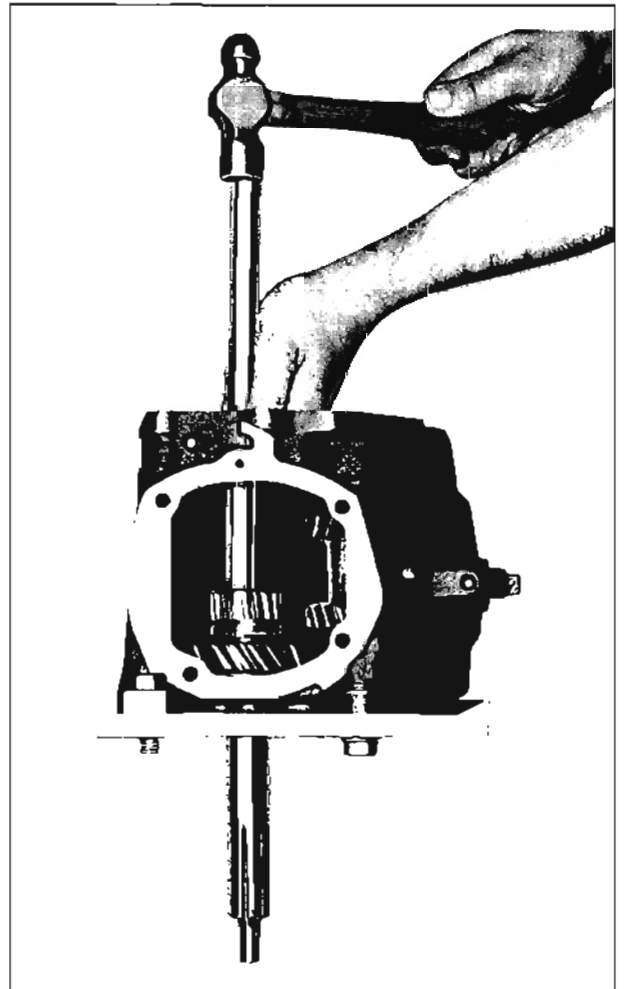

Fig. 7-123 Installing Clutch Gear and Bearing
6. Insert clutch gear in case from inside case and using a brass drift, tap the outer race of the clutch gear bearing until the bearing locating ring groove is outside the front of the case, being careful to drive the assembly straight to prevent damage. (Fig. 7-123)